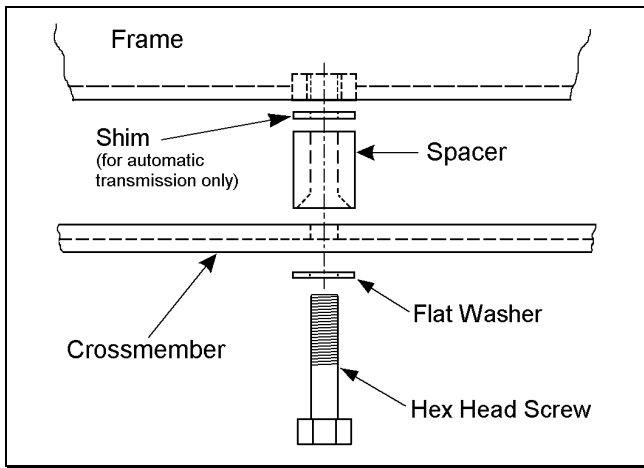

Figure 19
- 5)  If hex head screws were removed, install the hardware from kit 860483. See figure 19.